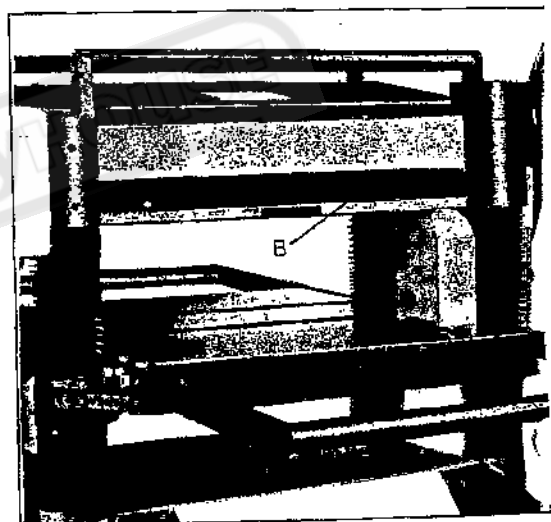

Fig. 24
3. Move the gage block (A) to opposite end of the working table, as shown in Fig. 24.